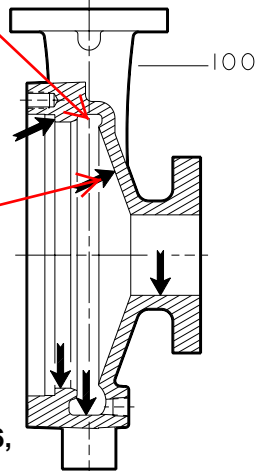

Fig. 88
The casing (100) should be inspected for cracks and excessive wear or pitting. It should be repaired or replaced if it exceeds the following criteria (Figs. 88, 89 & 90).